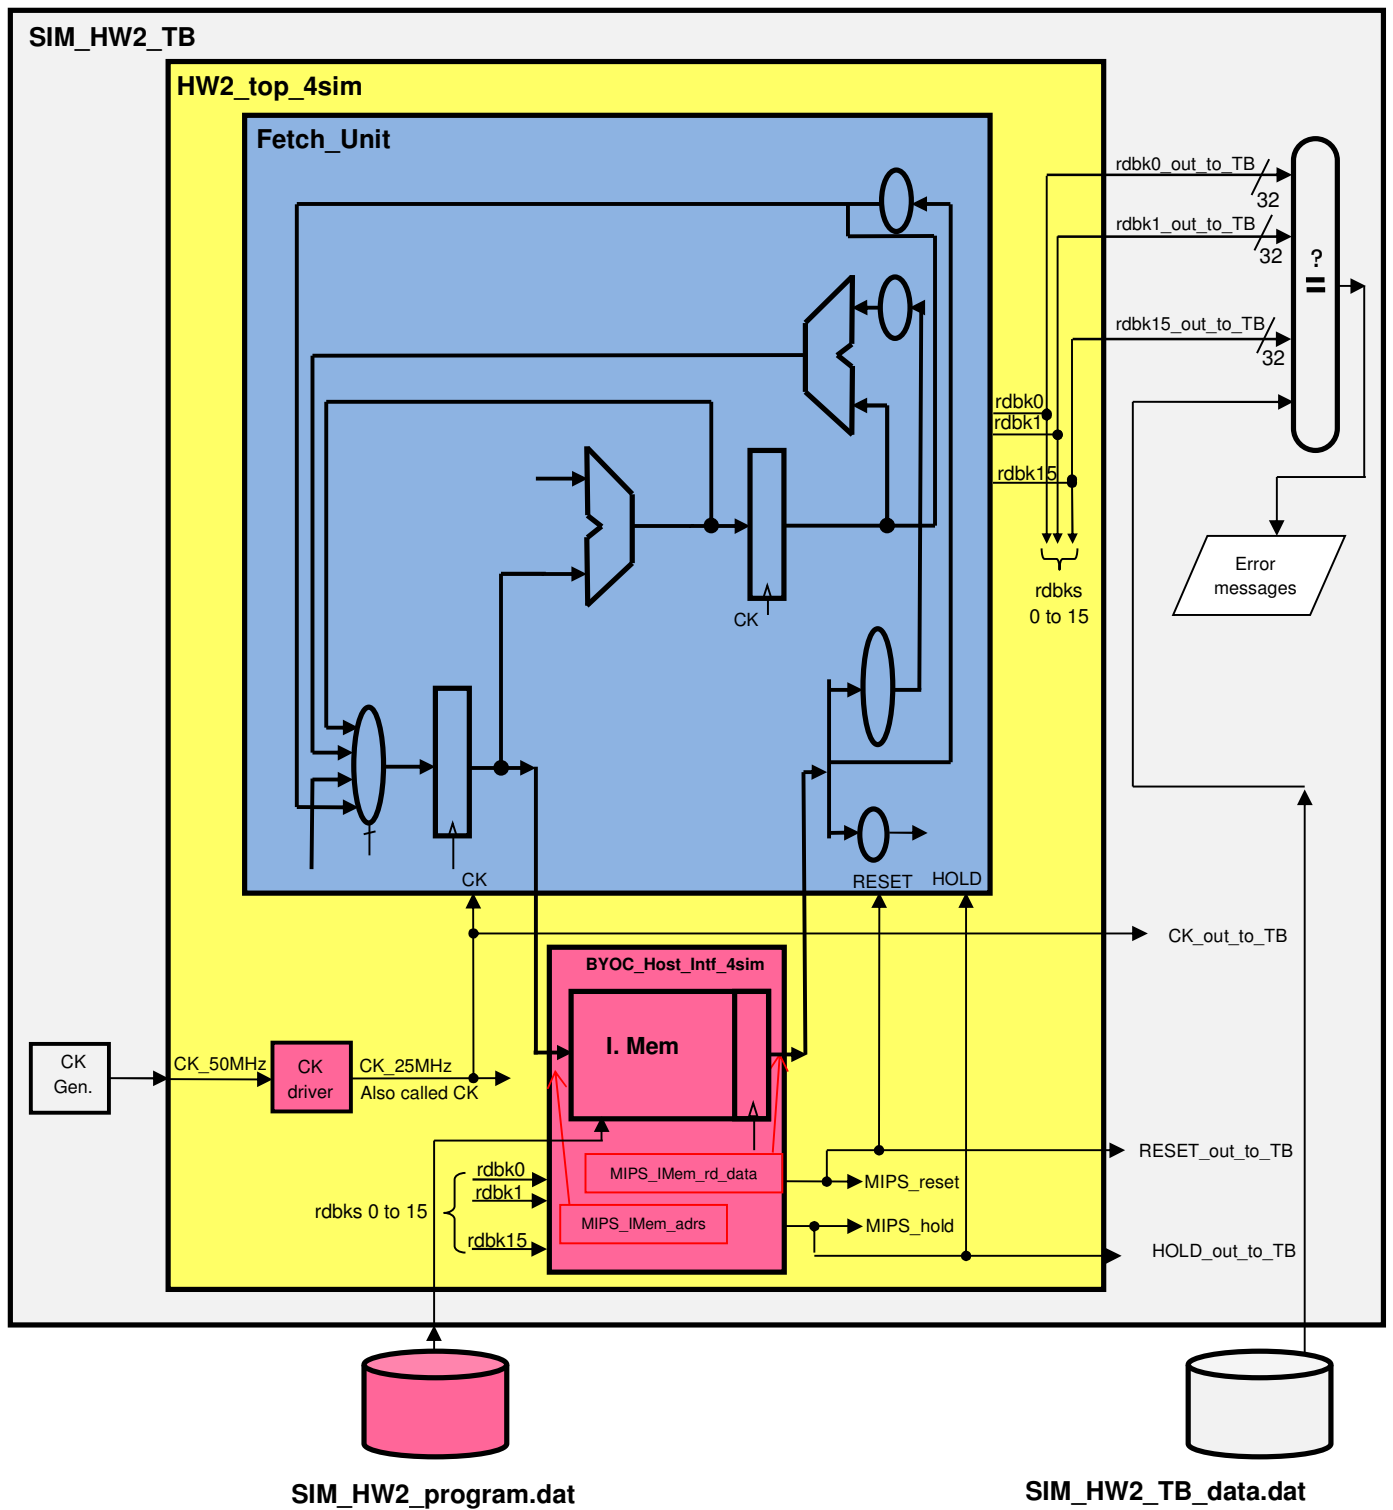

Fig. 2 – HW2 simulation project
Figure 2 below describe the simulation project scheme:
- 3.1) Draw on paper a block diagram describing the inside of HW2_top entity. Specify all connections of the sub components between themselves and between them and the i/o pins of the HW2_top entity. [This is meant to make you familiar with the i/o pin names, the signals, the port mapping of the components, i.e., to understand what is connected to what] It is similar to HW2_top seen in Fig.2 of this document except you are not supposed to show the inner parts of the components (e.g., the Fetch_Unit), and you are supposed to show **all** signals and i/o pins of HW2_top and all components inside HW2_top. The i/o pins names of a component should be written inside the component (e.g., CK_25MHz_OUT in the Clock_Driver). The HW2_top i/o pin names should be written outside the HW2_top entity. The signal names should be written next to the signal wires. You should gather bus lines together and specify them accordingly (e.g., bus(15:0)_example for the signals bus0_example, bus1_example, ... , bus15_example). You may base your drawing on Fig.2 of the 14_BYOC_HW_infrastructure.doc file.